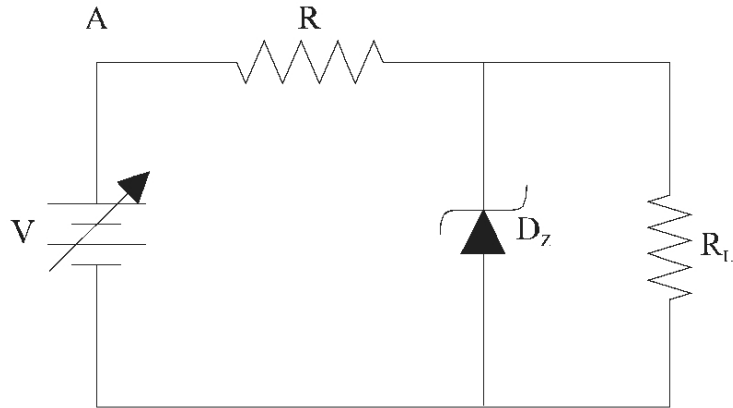

Figure 7-3-2. Circuit with Zener diode and load.
3. Assemble the circuit shown in figure 7.3.2